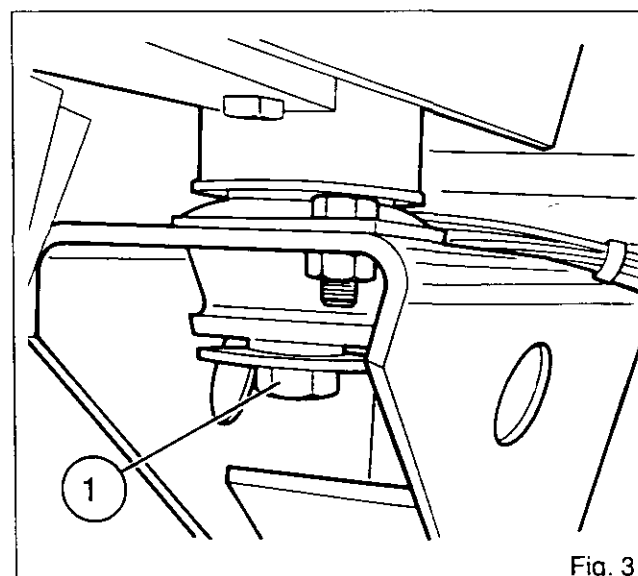

Fig. 3
15. Remove the bolts (1) through the shock absorbers on the RH and LH cab supports (Fig.3). Raise the cab **slightly**.
30. Lower the cab, fit the bolts through the shock absorbers (1) (Fig.3), and tighten the bolts to a torque of 200 - 270 Nm.
- 4 cyl. engines : see Fig. 3,